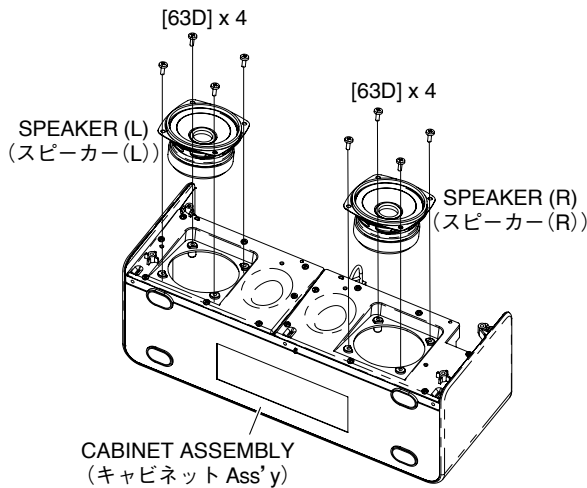

Fig. 9 (図9)
- 8-2. Remove the four (4) screws marked [63D]. The speaker (L) can then be removed. (Fig. 9)
* **The speaker (R) can be removed in the same way.**
- 8-2. [63D] のネジ4本を外して、スピーカー (L) を外します。(図9)